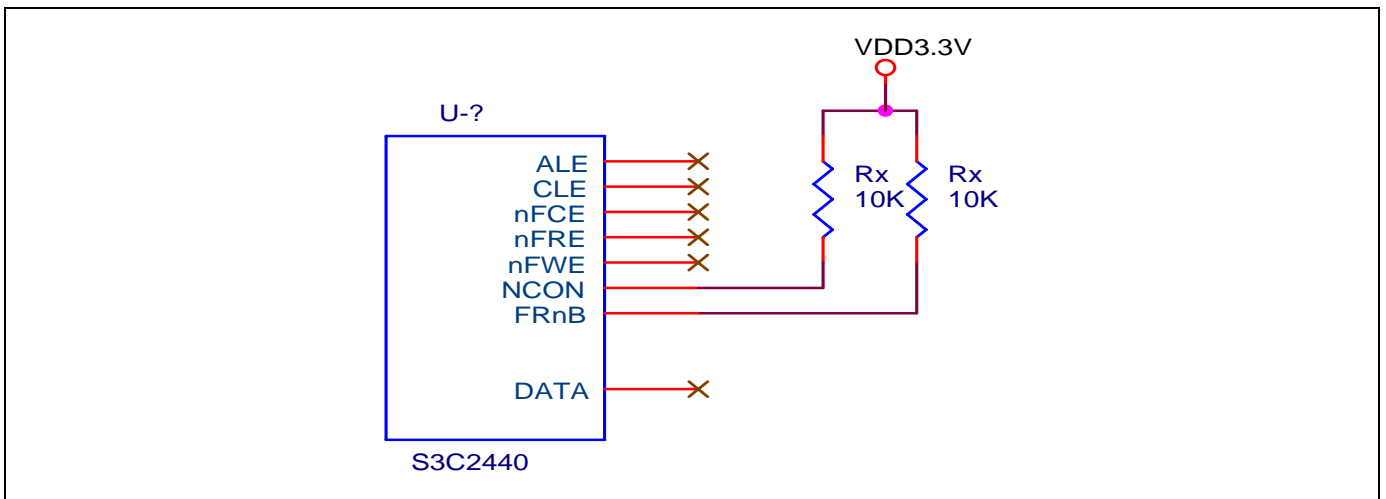

Figure 4-19. NAND Flash not used Circuit Example
Figure 4-19 shows a design when NAND Flash is not used
- V16C6448AB (640x480 TFT LCD) from PRIMEVIEW (refer to Figure 4-19)